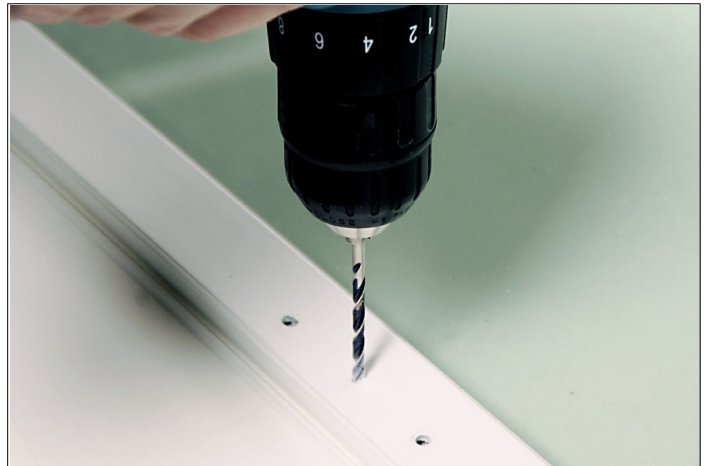

Figure 3: Drill hole to access backer.
- 1/8" (3) Drill Bit
3. Occasionally the backer that helps fasten the lift to the sash gets stripped out. If this happens, the screws will not hold properly. To fix this, use a power drill and 1/8" to bit bore a hole through the layer of Ultrex between the two existing screw holes. See figure 3.